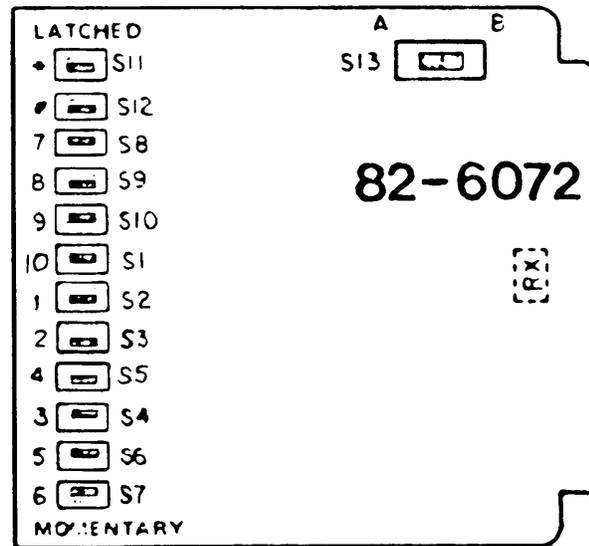

FIGURE 2
4.05 Thirteen option switches must be set before the 6072 is plugged into place or power is applied to the unit. These switches and their functions are described in paragraphs 4.06 and 4.07. The location of each switch on the module's printed circuit board is shown in Figure 2.